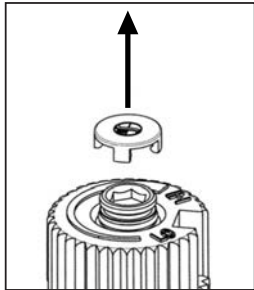

Figure 14: Removing valve cap.
- a) Remove the black protection cap from the HI/LO knob by hand shown in Figure 14.